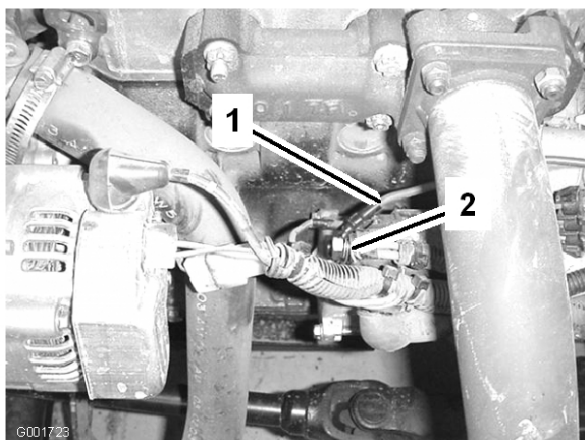

Figure 3
7. Locate the starter solenoid on the left side of the engine. Connect the red power wire on the wiring harness to the front of the solenoid (Figure 3).